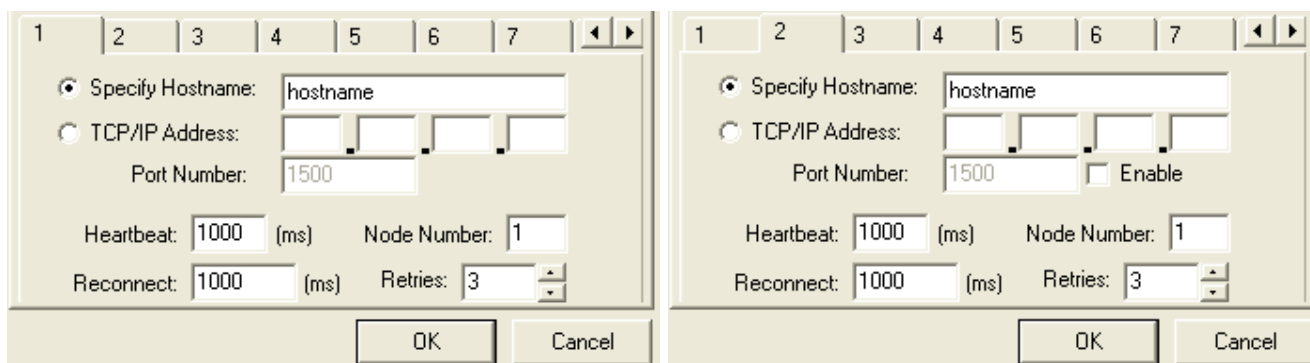

Figure 10 - Create New Triconex PLC Node (Ethernet) Window - Connection Tabs
The **Create New** window (Figure 10) displays the settings available for a new object.
(except for the **Enable** checkbox) in this section appear across all three **Device Settings** tabs, and across all 10 **Connection** tabs. Figure 10 displays connection tab **1** without the Enable checkbox, and what connection tabs **2** through **10** would look like with the checkbox.
- The **Create New** window appears (Figure 10).